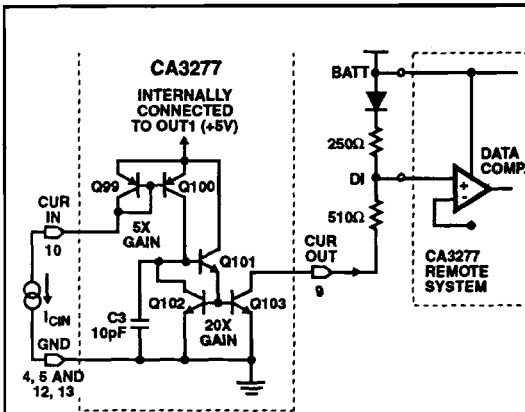

FIGURE 2. CURRENT MULTIPLIER DRIVING A REMOTE CA3277 DATA COMPARATOR
**Current Multiplier** - The Current Multiplier, with internal circuitry shown in Figure 2, receives data from the microcontroller in the form of an open drain or gate switched output driving a 22K $\Omega$  resistor load in series to the Current Input at pin 10 (CUR IN). The input stage of the Current Multiplier is a current mirror amplifier which is internally connected to the 5V regulated OUT1 voltage source. The output stage of the Current Multiplier is a current mirror amplifier referenced to GND and has an open collector Current Output at pin 9 (CUR OUT), with a minimum drive capability of 35mA. The Current Multiplier output load is
normally connected directly to the BATT supply line. This provides a path for current conduction into the IC through an internal diode junction. The current is limited by the external resistor and may be as high as 100mA at -26V. Where negative supply voltages are potentially a problem, the resistive load from DATA IN to BATT can be in series with a reverse voltage blocking diode, such as a 1N914. This input diode-resistor circuit is shown in Figure 2 as the remote interface and load to the Current Multiplier output.